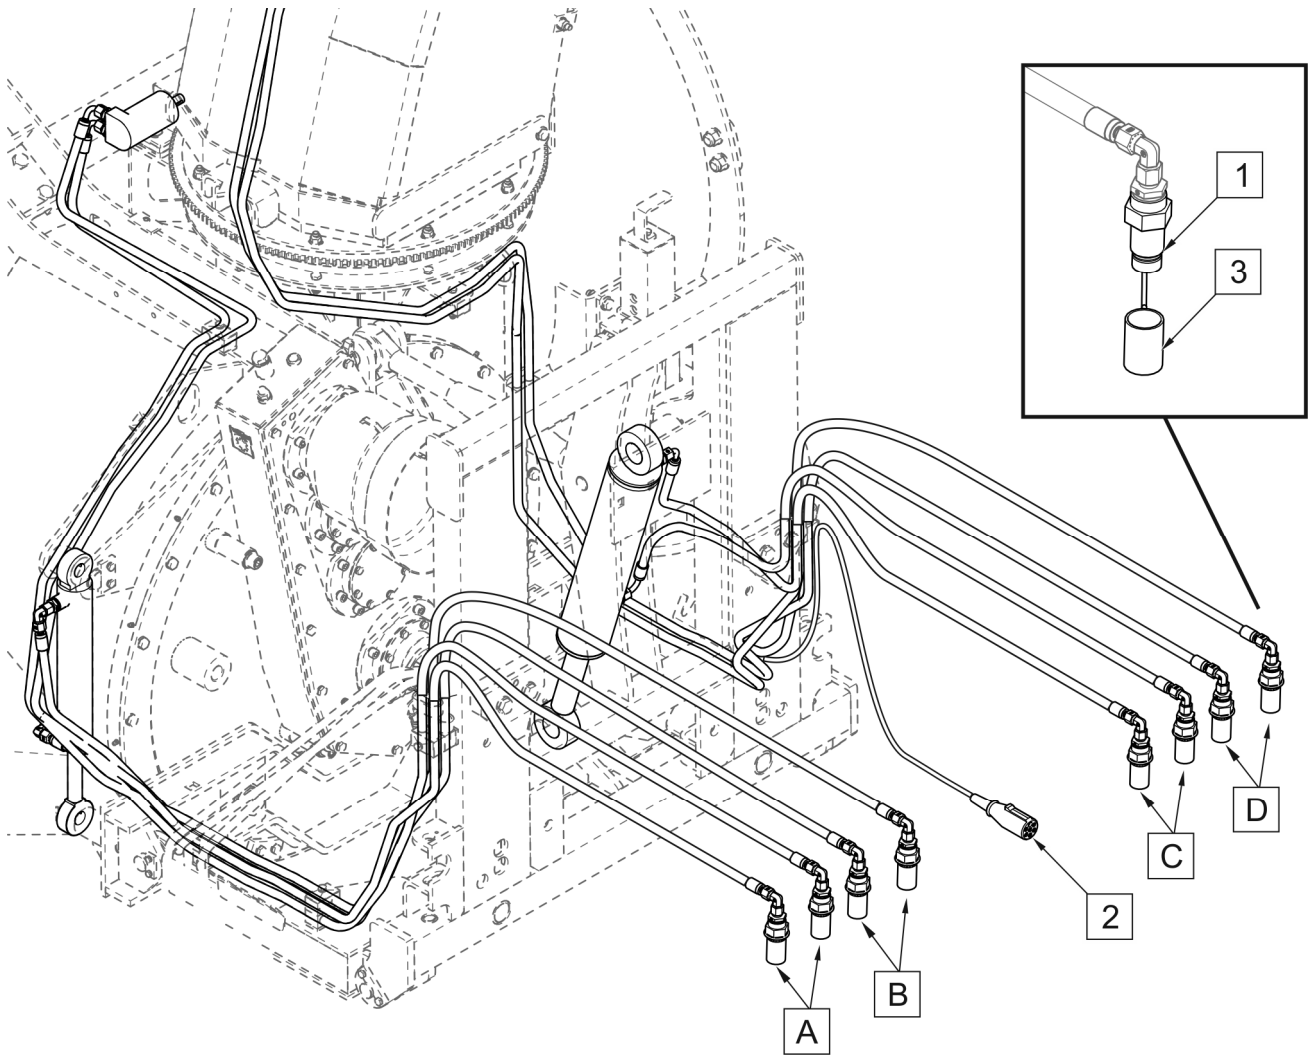

FIGURE 4.8 Connecting hydraulic system and electrical system (machine mounted on the carrying vehicle's faceplate)
Connect hydraulic conduit connectors (FIGURE 4.8) to four pairs of ISO 16028 sockets located on the front of the carrying vehicle. Connect the connectors (C) to the hydraulic section with a floating function. Connect the clearance lights power supply plug (2) (FIGURE 4.8) to the 7-pin 24V ISO 1185 socket on the carrying vehicle.
- 1) Drive the carrying vehicle to a distance of about 30 cm from the snow blower linkage, immobilize the vehicle and turn off the engine. Connect hydraulic conduit connectors (FIGURE 4.8) to corresponding sockets of the external hydraulic system on the front of the carrying vehicle.
Raise the machine and check if correctly mounted. Using appropriate bolts, connect the machine linkage frame with the carrying vehicle's faceplate. Connect the clearance lights power supply plug (2) to the 7-pin socket of the carrying vehicle's electrical system (FIGURE 4.8).